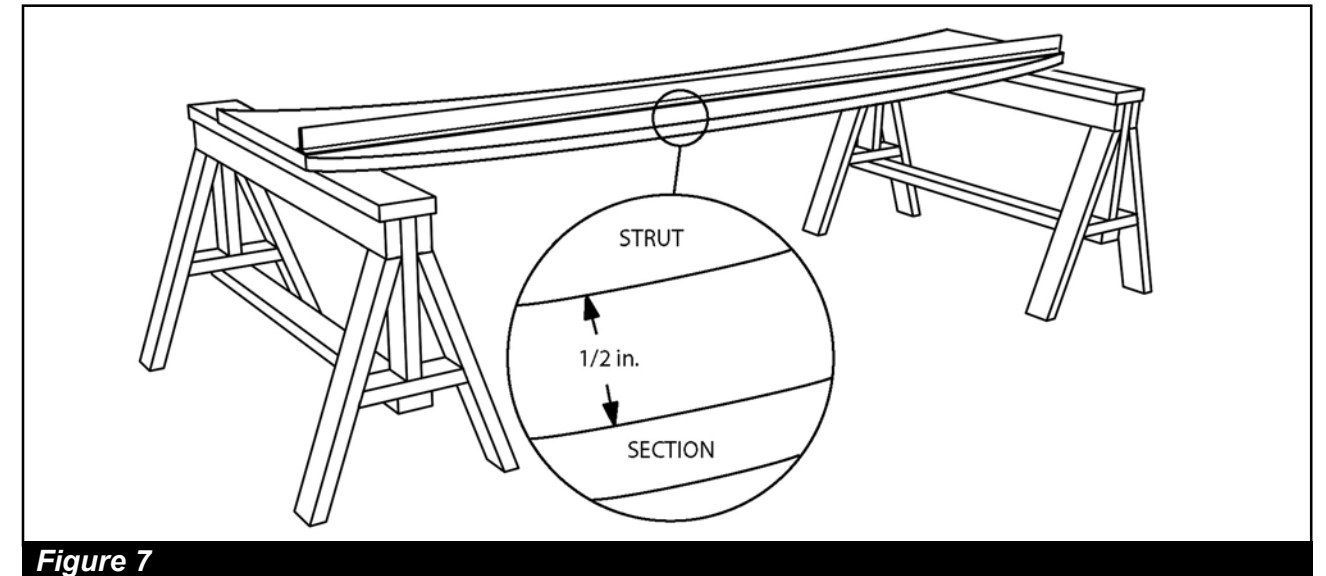

Figure 7
**INSTALL THE STRUT** To install a strut on a section, place the section on saw horses and place the strut in position on the section. Adjust the sawhorses in or out so the section sags 1/2" or so under the strut. (Fig. 7). First fasten strut to end stiles on both ends with 1/4" x 3/4" self tappers. Then fasten strut to center stile with 1/4" x 3/4" self tappers. Finally fasten strut to any remaining intermediate stiles.